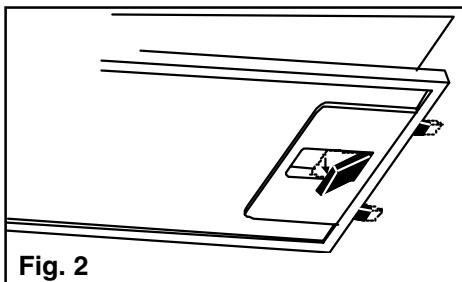

Fig. 2
- Pull out the visor, remove the rear grease filter pulling the handle designed for this purpose, then proceed in the same way to remove the front grease filter. **Fig. 2.**